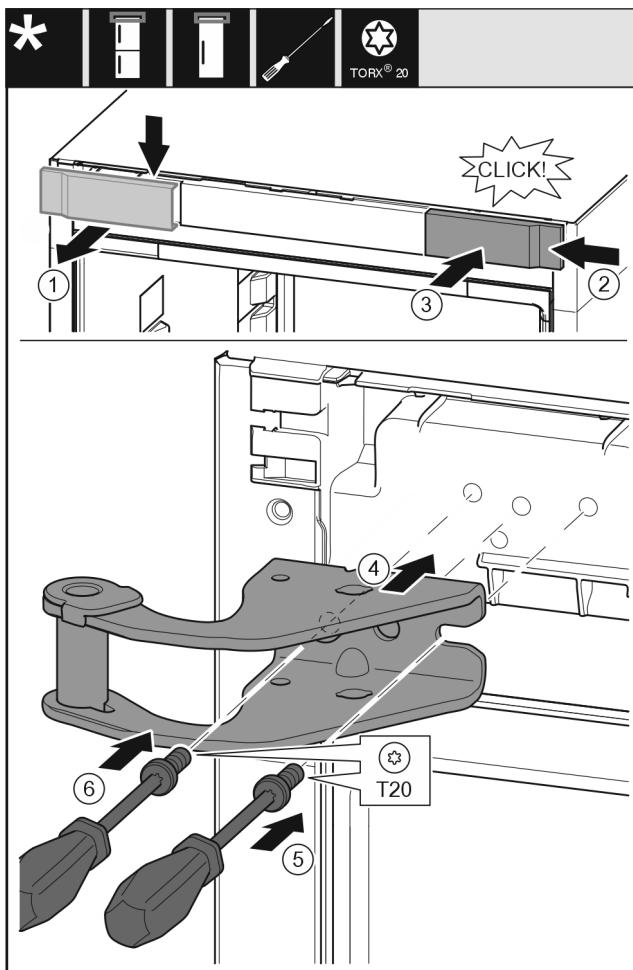

Fig. 13
- Take off the cover to the front from above. *Fig. 13 (1)*
- Rotate the cover 180° and clip onto the other side from the right. *Fig. 13 (2)*
- Latch the cover into place. *Fig. 13 (3)*
- Position the upper bearing bracket. *Fig. 13 (4)*
- Insert the screw with a T20 screwdriver and tighten it. *Fig. 13 (5)*
- Insert the screw with a T20 screwdriver and tighten it. *Fig. 13 (6)*